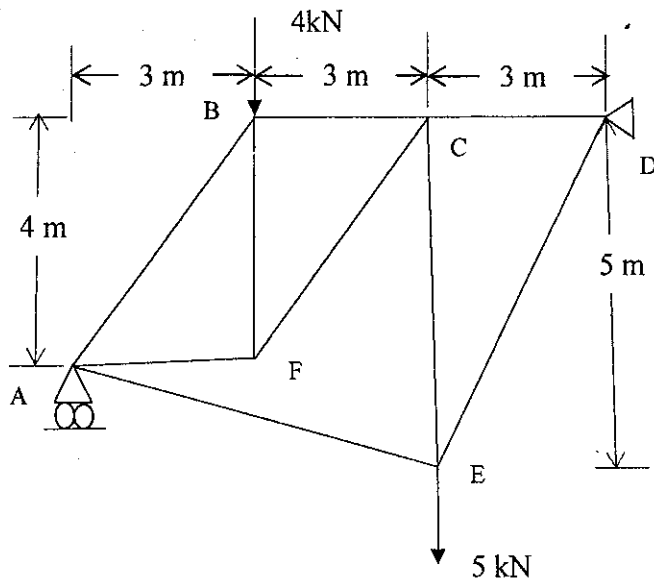

Figure 1
3. Answer any **Five (5)** questions only. All questions carry equal marks.
- b). Figure 1 shows the body diagram of a simply supported plane truss.
- ii). Find the vertical displacement of the point B of the truss given in Figure 1, if only the load 4kN at joint B is applied to the structure. (Assume  $AE$  is constant for all the members) Members are square sections with 25 mm x 25 mm and  $E = 100$  GPa (10 Marks)
The truss given in Figure 1 is proposed to design with Gr. 43 steel members.